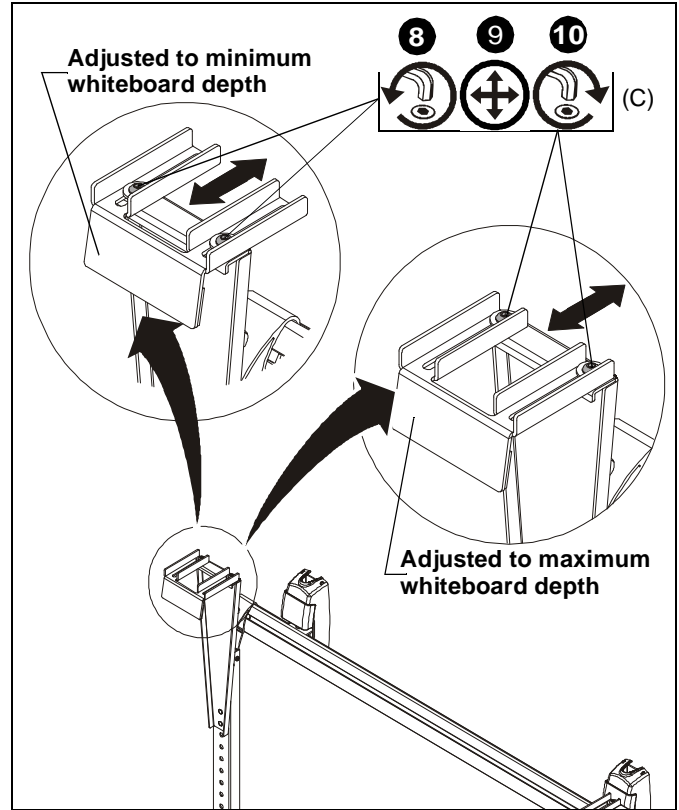

Figure 4
8. Loosen button head cap screws (C) on bracket assemblies using 5/32" hex head wrench (F) to allow adjustment to fit whiteboard depth. (See Figure 4)
10. Tighten button head cap screws (C) on bracket assemblies. (See Figure 4)